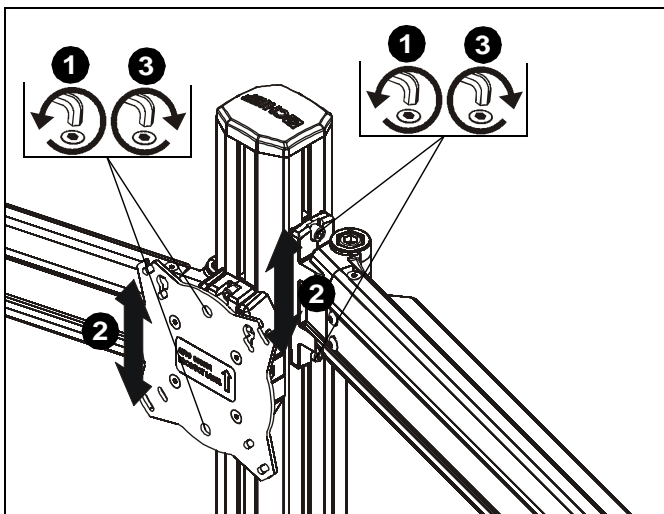

Figure 18
**NOTE:** Height adjustment for center displays should be set prior to installing display. Due to the location of the height adjustment screws for the center displays, the center displays will need to be removed in order to adjust the height. (See Figure 18)
- Loosen height adjustment screws for specific display that will be adjusted. (See Figure 18)
- Adjust arm or display to desired height. (See Figure 18)
- Tighten height adjustment screws to lock display's position. (See Figure 18)